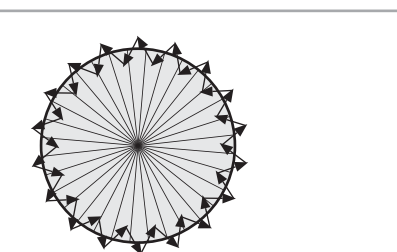

FIG.19
- 4.2.4 Walk from outside across to the detection pattern until red LED turns on for approx. 2sec then off, the next trigger should be 2sec interval (See FIG.19).